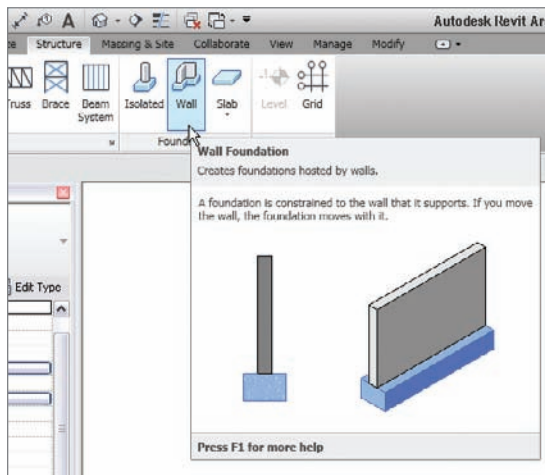

FIGURE 8.56 Adding a Wall foundation
6. On the Foundation panel of the Structure tab, click the Wall Foundation button, as shown in Figure 8.56.